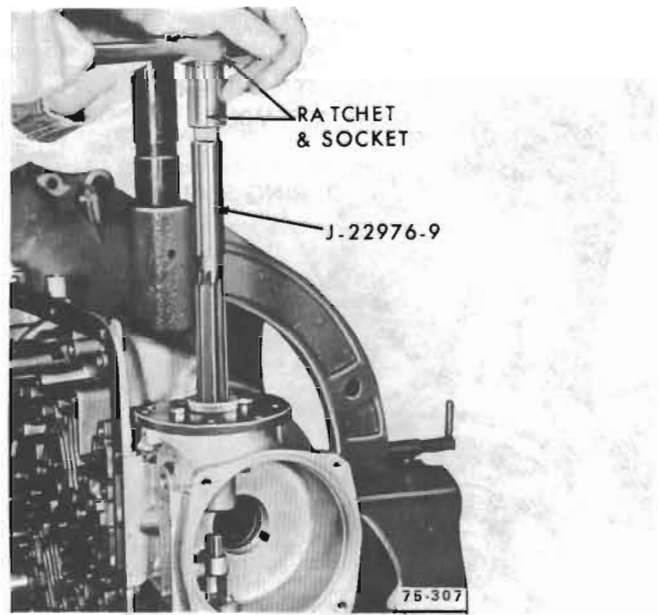

Figure 76-282
- b. Use 5-10 lbs. of feeding force on the reamer. See Figure 76-282.